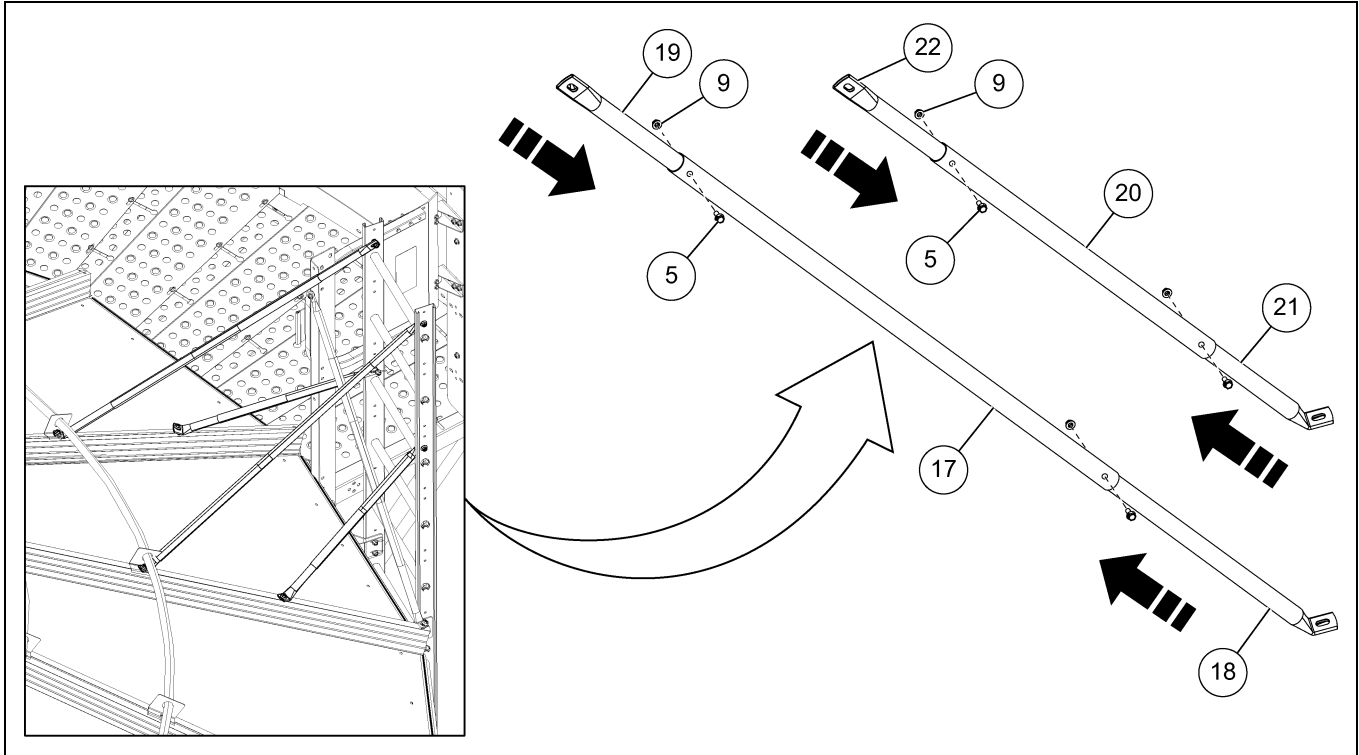

Figure 7E Securing the Ladder Braces
- a. Make sure to slide and adjust the smaller tubes (19 and 22) in both the ladder brace so that the bottom flattened end of the smaller tubes (18 and 21) reaches the roof panel (36).
- b. Use 5/16" x 1" flange bolts (4) and 5/16" flange nuts (8) to install the smaller tubes (18 and 21) to the roof panel (36).
- c. Use 5/16" x 1" flange bolts (4) and 5/16" flange nuts (8) to install the smaller tubes (19 and 22) to the ladder extension rail (31).
- d. Make sure to field drill four 5/16" holes per brace through both large and smaller tubes and bolt together using 1/4" x 1-1/2" bolts (5) and 1/4" nuts (9) to prevent the braces from slipping. *(See Figure 7E on Page 73.)*